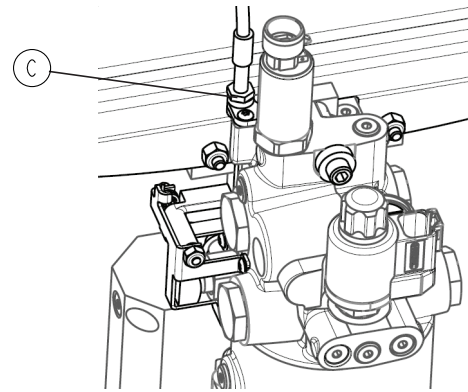

Figure 33 – Tighten the jam nut
8. Using a 10 mm combination wrench, tighten the jam nut (C) after slack in the manual release cable is gone (Figure 33).